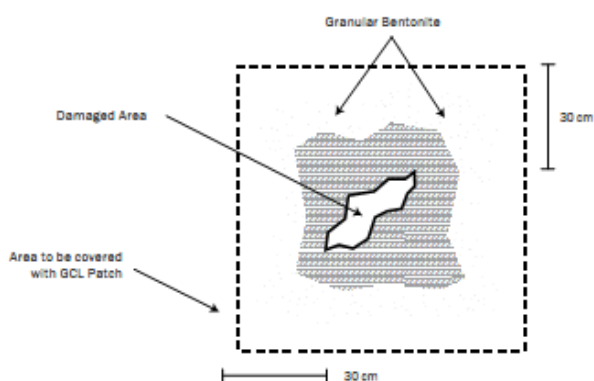

Fig. 17: Damage Repair by patching
1. If the **Claymat GCL** is damaged (torn, punctured, perforated, etc.) during installation, it may be possible to repair it by cutting a patch to fit over the damaged area (**Figure 17**). The patch should be cut to size such that a minimum overlap of 30 cm is achieved around all parts of the damaged area. Granular bentonite should be applied around the damaged area prior to placement of the patch. It may be necessary to use an adhesive such as wood glue to affix the patch in place so that it is not displaced during cover placement. Smaller patches may be tucked under the damaged area to prevent patch movement